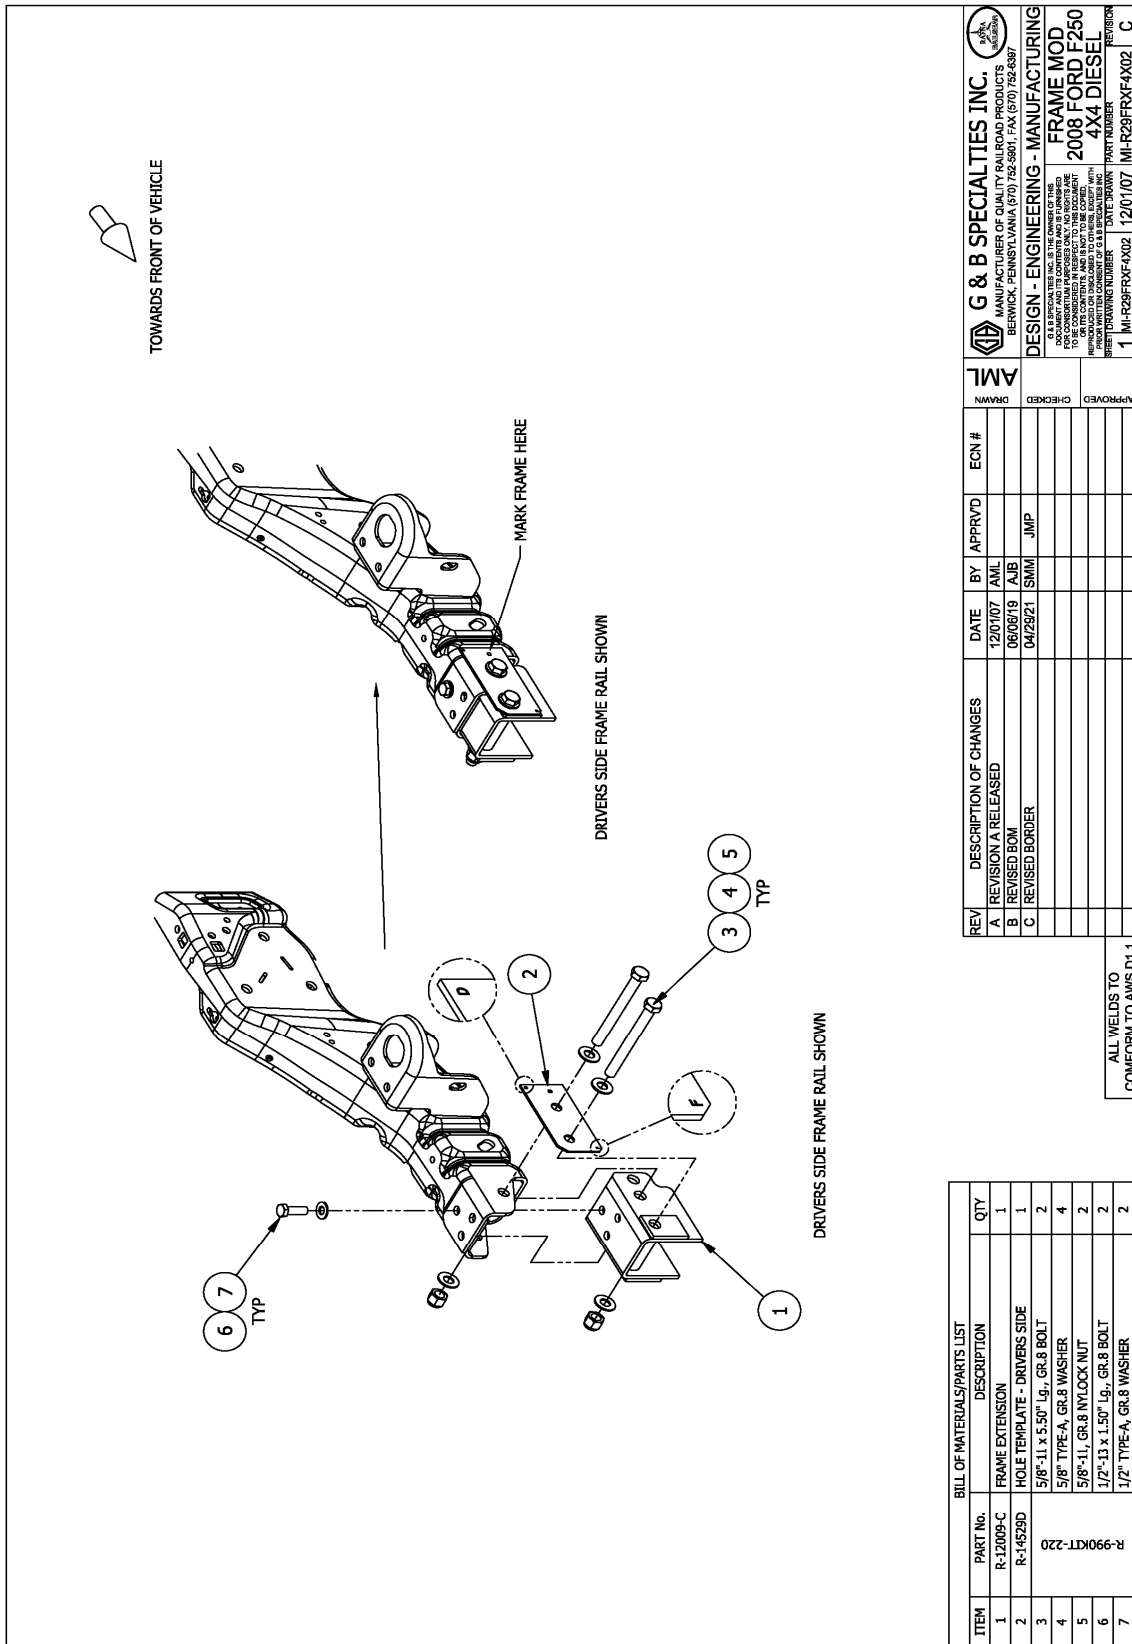

Figure 2
6. Insert frame extension into frame and align with first drilled hole in the frame and with the drilled holes in the top of the frame. Attach the frame extension to the frame using a 1/2" X 1-1/2" bolt and flat washer inserted thru one of the holes drilled in the top of the truck frame and into the frame extension - tighten but do not torque at this time (this is to hold the frame extension in place for marking and drilling the frame for the remaining holes). There are 1/2" lock nuts welded to the inside of the frame extension. Make sure that the top of the frame extension is tight up against the inside top surface of the truck frame. Repeat for passengers' side. Figures 2 & 3
7. On the outside of the driver's side frame rail, bolt the drivers side hole template to the frame extension and truck frame using 5/8" hardware as shown in **Figure 2 or 2A**. The hole template should be level with the top of the frame extension, not the truck frame, and flush with the front of the frame extension. Using a 1/4" center punch, mark the truck frame for the remaining hole using the hole in the template as a guide. Remove the hole template and frame extension from the truck.